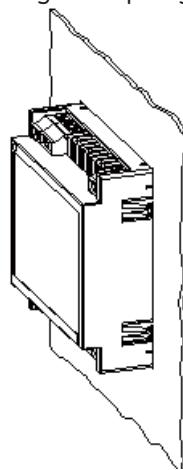

Figure 3: Fully insert the device
- 3 .- Fully insert the device and fasten it by using the spring (**Figure 3**)